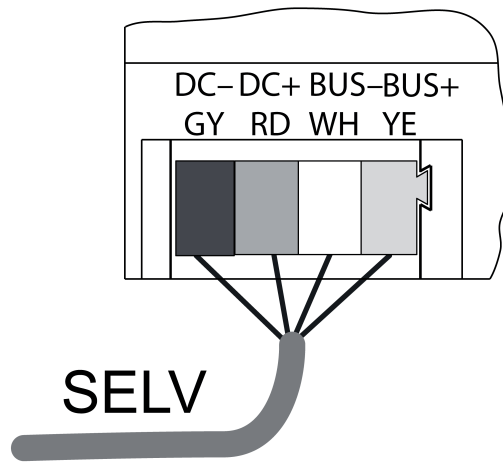

Figure 2: Connection diagram of bus line
- Connect the device with bus line (Figure 2) to the RMD reception module and power supply (see instructions of RMD reception module and power supply).